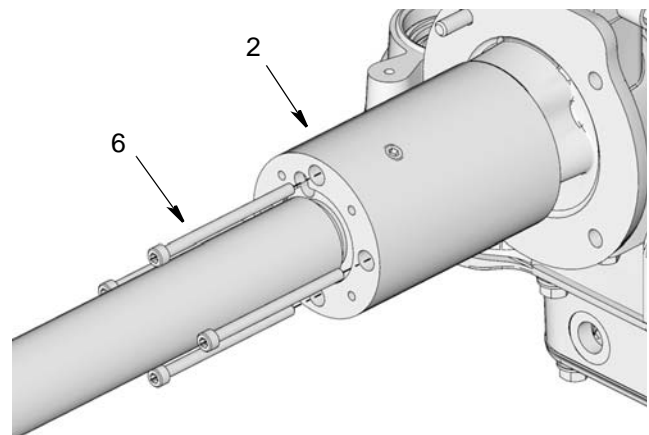

FIG. 24
9. Remove screws (6) from pump adapter (2) (FIG. 24).